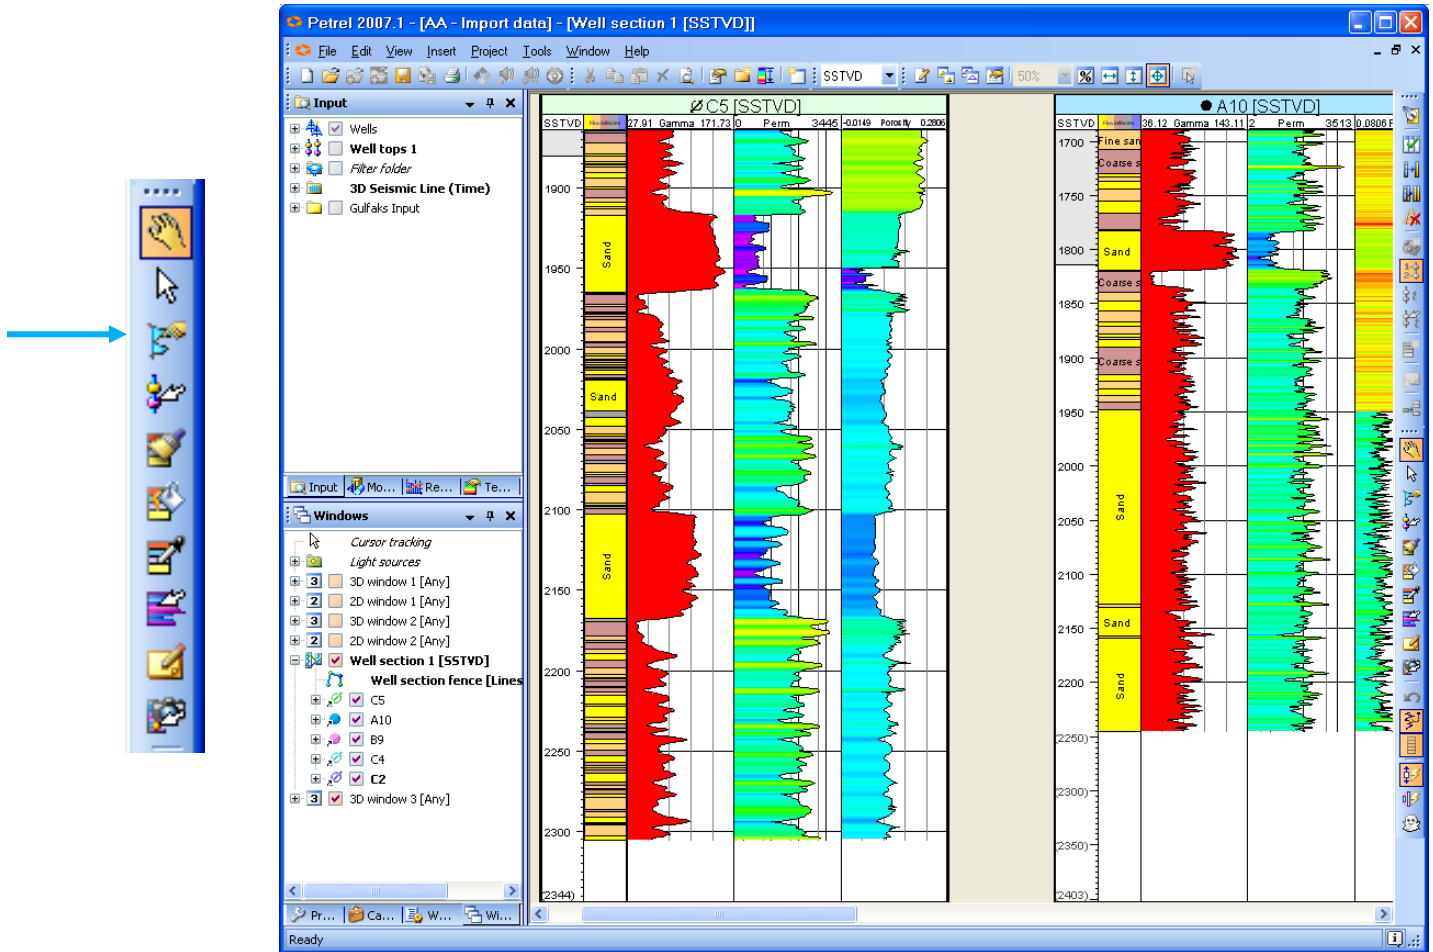

Fig. 10.19: The area between log curves is filled with the specified color & pattern
2. Click in the area between the left edge and the Perm log to fill color in that interval as shown in Fig. 10.19.